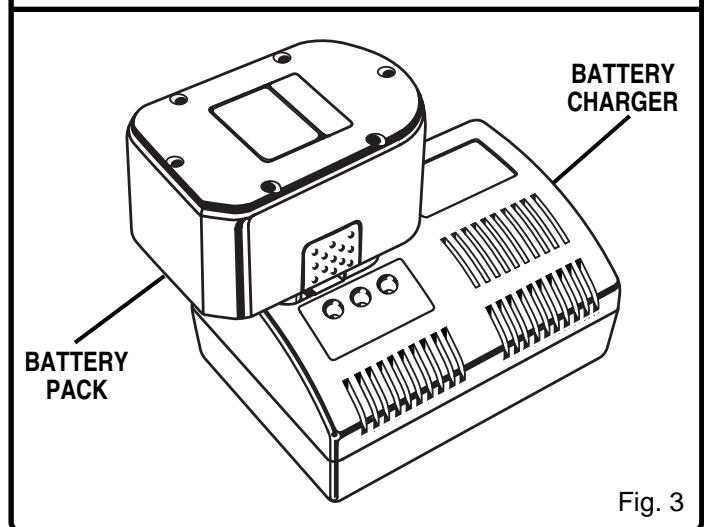

Fig. 3
- Place battery pack in charger. See Figure 3. Align raised rib on battery pack with groove in charger.